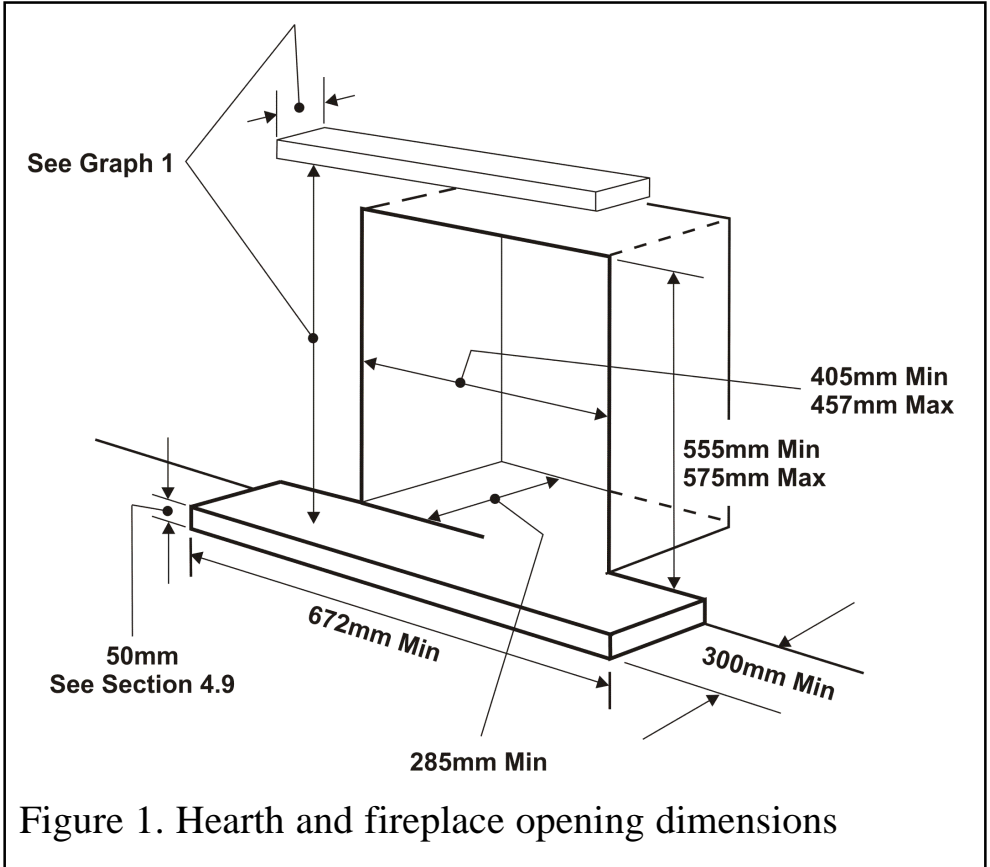

Figure 1. Hearth and fireplace opening dimensions
4.2.1 To a fireplace complete with surround and hearth as shown in figure 1 and complying with BS1251 after removal of the fireback and sufficient material behind the fireback for a debris catchment space. The required fireplace, hearth, debris catchment
area and clearance dimensions are shown in figure 1.
- It is recommended that a hearth should be installed as in figure 1. If a hearth is not fitted, the fire must be installed so that the distance from the base of the fireplace opening in the wall to the finished floor level is at least 85mm. Where there is no floor covering or carpet and the floor is of a type that is likely to be covered in such a way in the future then the distance from the base of the fireplace opening in the wall to the floor level should be increased to at least 160mm. The minimum shelf height will have to be taken from the base of the fireplace opening.